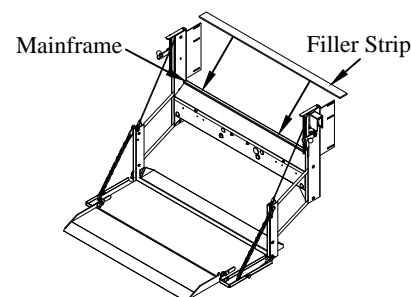

Figure 6: Filler strip location (Original Series).
1. **Weld** the supplied filler strip (12ga.x1-1/4"x58-1/2") to the top corner of the liftgate mainframe (Figure 6).